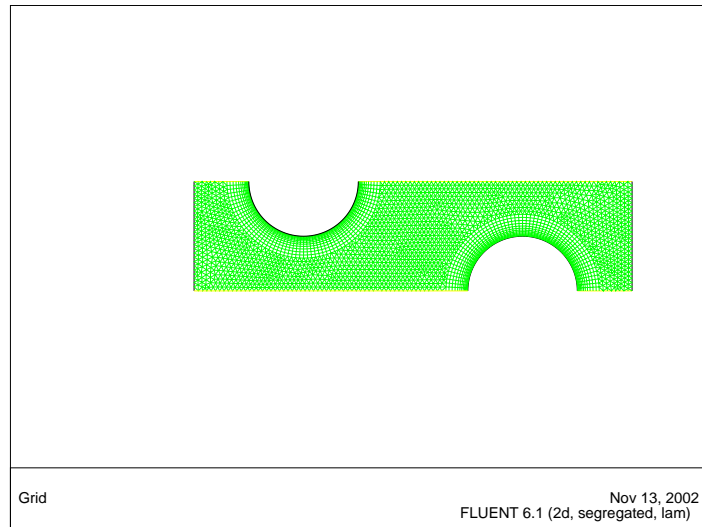

Figure 2.2: Mesh for the Periodic Tube Bank
- 4. Display the mesh (Figure 2.2).
In Figure 2.2 you can see that quadrilateral cells are used in the regions surrounding the tube walls, and triangular cells are used for the rest of the domain, resulting in a “hybrid” mesh. The quadrilateral cells provide better resolution of the viscous gradients near the tube walls. The remainder of the computational domain is conveniently filled with triangular cells.